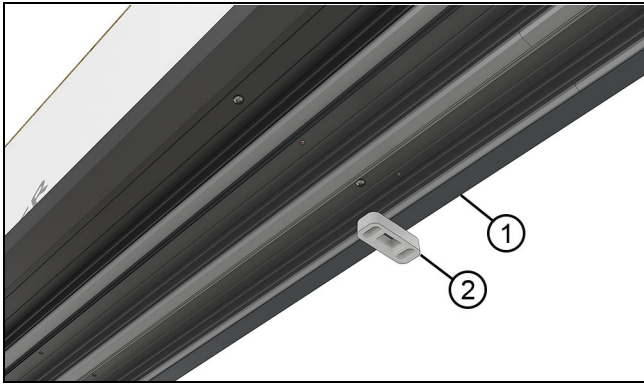
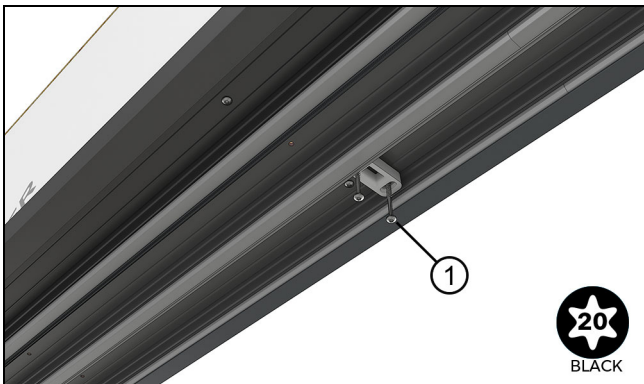

Figure 64
Figure 65
5. On bi-parting units, fasten the flush bolt strike through the pre-drilled holes near the center of the head jamb using #10x3" (64) screws. Make sure there is adequate shimming between the RO and the head jamb at the location of the strike. See Figure 64 and Figure 65.